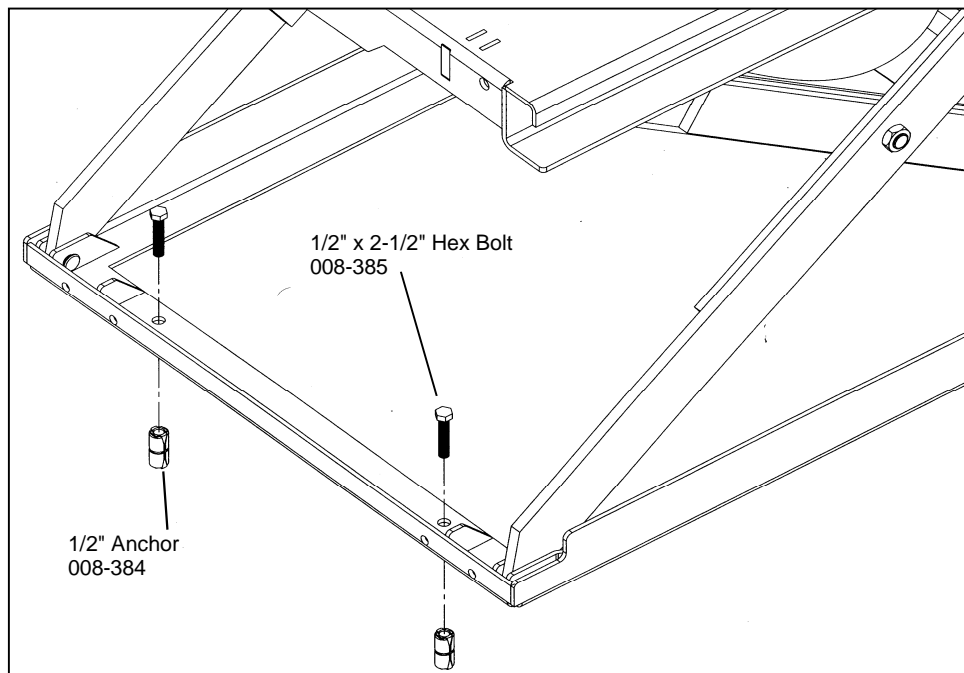

fig.4
Insert the anchors (008-384) into the drilled holes, making sure that the threaded cone end is inserted first (see fig.4).
Return the lift to the desired position and install (4) 1/2" x 2-1/2" hex bolts (008-385, provided) (see fig.4).